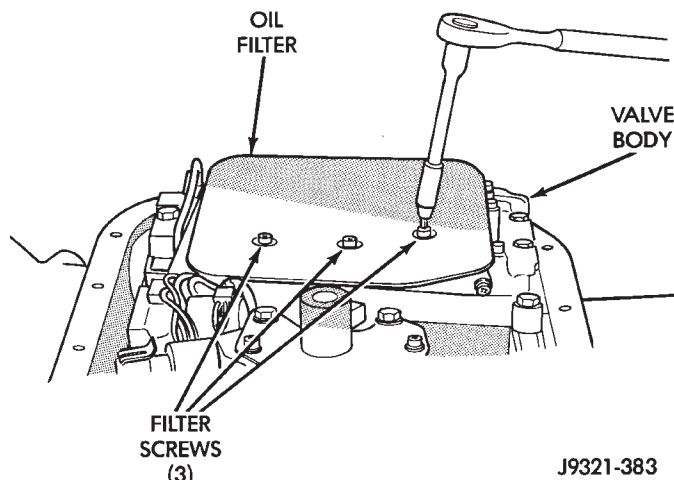

Fig. 6 Oil Filter Removal/Installation
- (9) Place transmission in horizontal position.
- (10) Remove transmission oil pan and gasket.
- (11) Remove oil filter from valve body (Fig. 6). Keep filter screws separate from other valve body screws. Filter screws are longer and should be kept with filter.